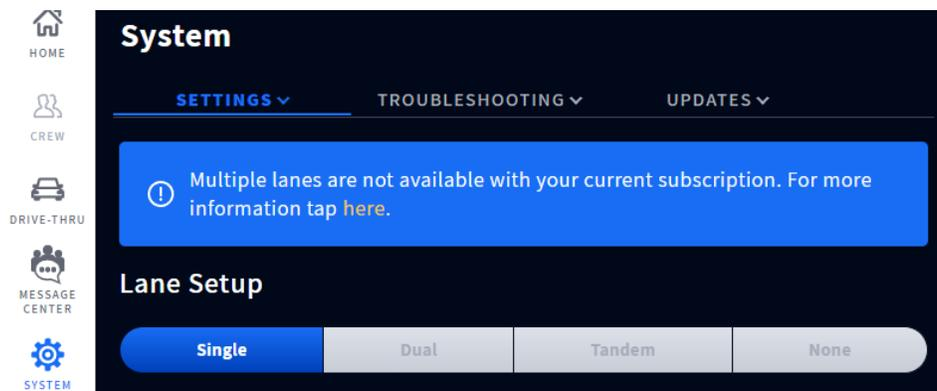

Fig. 1.5
**Grayed-out or unavailable features:** Depending on your tier subscription, some features may not be available. When you tap/click on an unavailable feature, a dialog box like the one in Fig. 1.5 will appear. In this example, the subscription only covers a Single Lane. If your store expands to include another lane, you can request a subscription upgrade to enable the Dual Lane configuration. Follow the prompt in the dialog box to upgrade. System tiers are also covered in the Help chapter of this guide (see “System Tiers” on page 37).